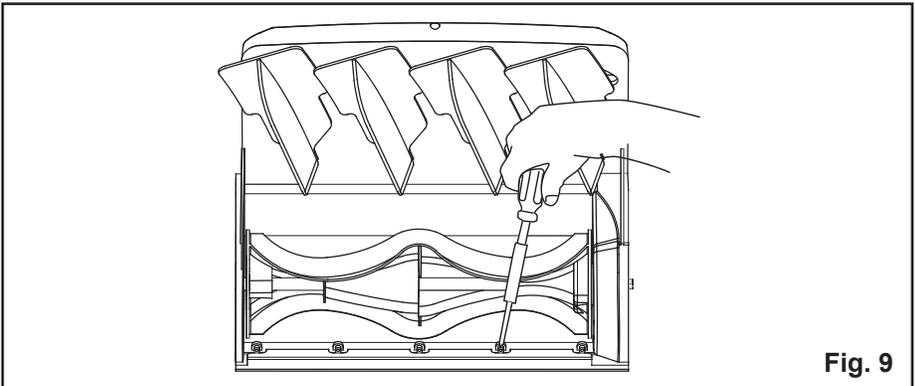

Fig. 9
REPLACING THE SCRAPER (See Figure 9)
- Remove the five (5) screws that are located beneath the impeller that secure the scraper to the housing using a phillips screwdriver (Fig. 9)
- Snap the new scraper into position, and attach it to the Snow Shovel by reinstalling the five (5) screws. Tighten the screws.